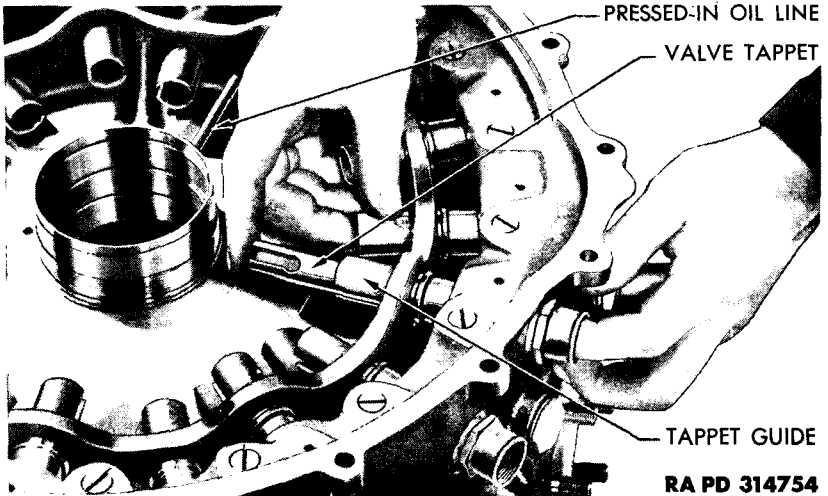

Figure 94 — Testing Valve Tappet Fit
c. **Install Valve Tappets.** Wrap clean cloth around a rod of suitable size, insert in tappet guide openings, and clean them out thoroughly (fig. 93). Make certain that each valve tappet is clean, and insert it in its matching guide (fig. 94). Tappets should fit so that